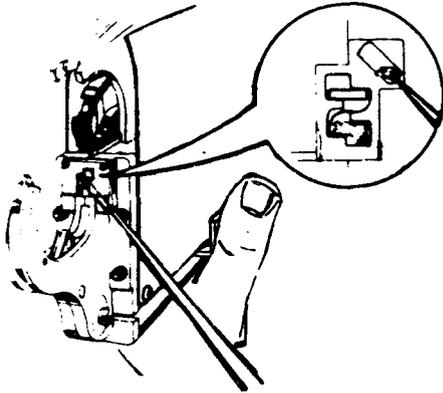

FIG. 10 TWISTER SLOT OBSTRUCTIONS
5.81 The following procedure should be followed to clear plastic particles or foreign material from the twist slots of the tool (refer to FIG. 10).